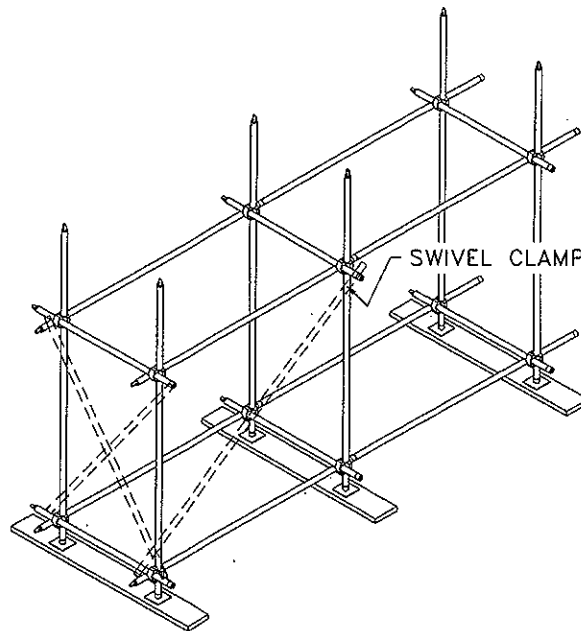

FIGURE 4
4. In continuing the erection of the scaffold to acquire the desired length and height, erect additional posts in sets of two (2) following the above procedure for attaching runners and bearers. Note: runners shall be interlocked to form continuous lengths and clamped to each post, maintaining a plumb and square tower.
5. Longitudinal diagonal bracing shall be installed using swivel clamps at approximately a 45 degree angle from the base of the first end post upward to the extreme top of the scaffold. Where the longitudinal length of the scaffold permits, such bracing shall be duplicated at every fifth post. In a similar manner, longitudinal diagonal bracing shall also be installed from the last post extending back and upward toward the first post. Cross bracing shall be installed across the width of the scaffold, at least every third set of posts horizontally and every fourth runner vertically. Such bracing shall extend diagonally from runners upward to the next runner. See Figure 4